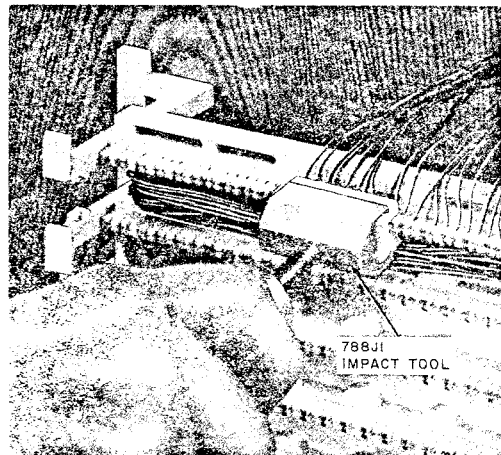

Fig. 11—Seating and Trimming Conductors
3.10 Dress the cable conductors in the wiring slot of the wiring block, then using the 788J impact tool, seat and cut the conductors at the edge of the index strip (Fig. 11). **Exercise care to prevent cutting the wrong side.** After cutting and removing the conductors, **check the index strip to assure that no short pieces of cut conductors are wedged in the wiring slots thus preventing a solid connection when the connecting blocks are seated.**